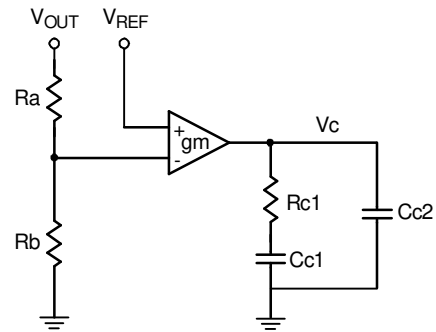
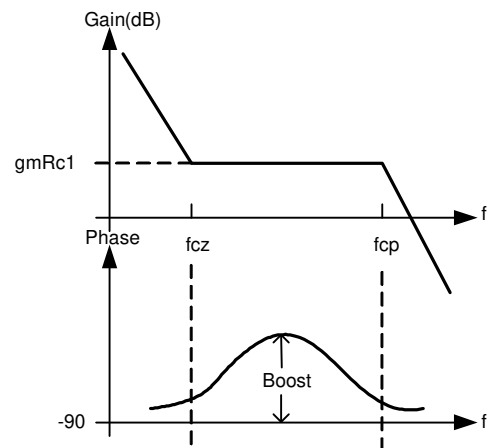

Figure 9. The typical type 2 trans-conductance error amplifier.
Figure 10. The Bode plot of type 2 trans-conductance error amplifier
So, the transfer function of compensator  $C(s)$  must be designed to meet these requirements. In many applications, use an electrolytic capacitor as the output capacitor, if the zero ( $f_z$ ) caused by Effective Series Resistance (ESR) of capacitor is a few kHz and smaller than 8 times  $f_P$ , the type 2 (PI) can be used to get desired compensation. Figure 9 shows the typical type 2 trans-conductance error amplifier and the Bode plot is also shown in Figure 10.